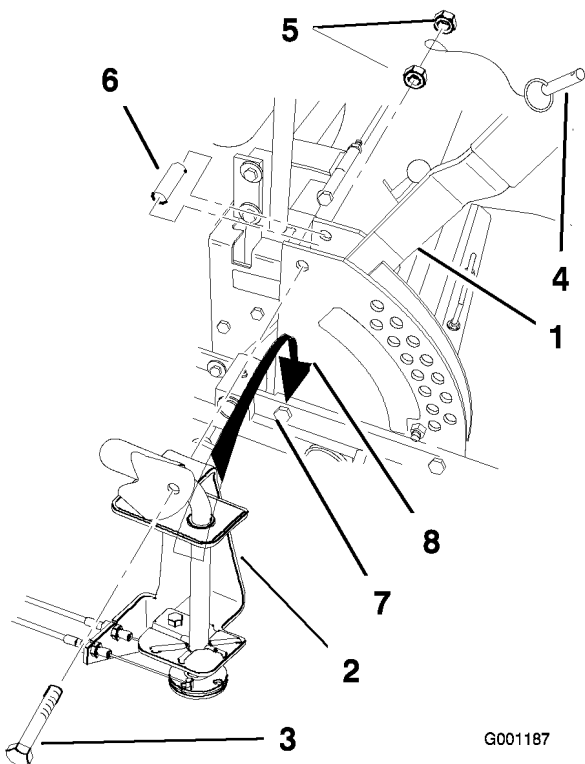

Figure 3
1. Remove the top bolt that holds the height-of-cut panel and pin with lanyard to the machine (Figure 3). Discard the bolt.
2. Loosen the bottom bolt that holds the height-of-cut panel to the machine (Figure 3).